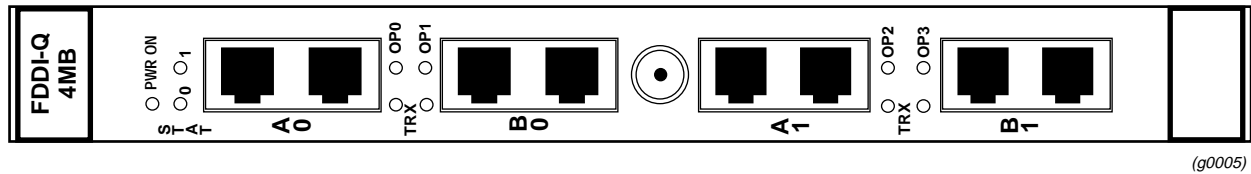

Figure 6-8. FDDI/Q media card faceplate and LEDs
The FDDI media card has four physical interfaces. Each interface has a pair of LEDs that show the type of connection (OP) and traffic activity (TRX) at that interface. Refer to Figure 6-8.